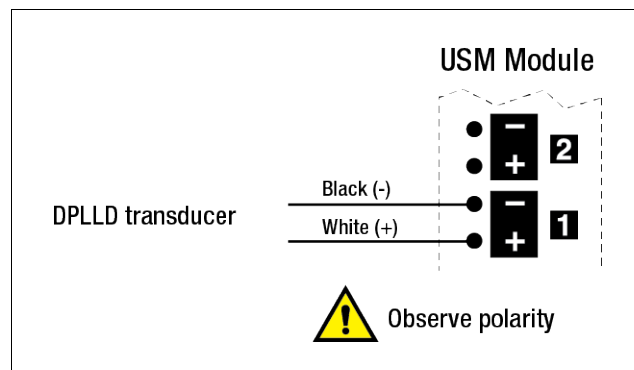

Figure 19. DPLLD Transducer Wiring To USM Module
1. Connect the two color-coded or marked wires from each DPLLD transducer to the USM module. (see Figure 19). Maintain correct polarity between the color-coded or marked field wires and the connector terminals during wiring.